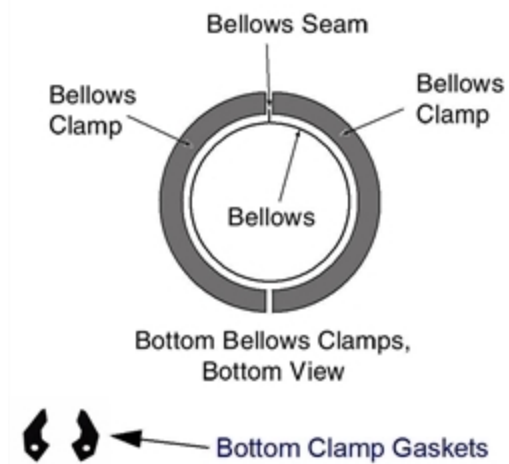

Figure 9-12. Bellows Clamps, Gaskets
- You must align mating surface of the clamp half-rings with the bellows seam - see Figure 9-12.
- Align the mating surfaces of the clamp half-rings with the bellows seam—see Figure 9-12.